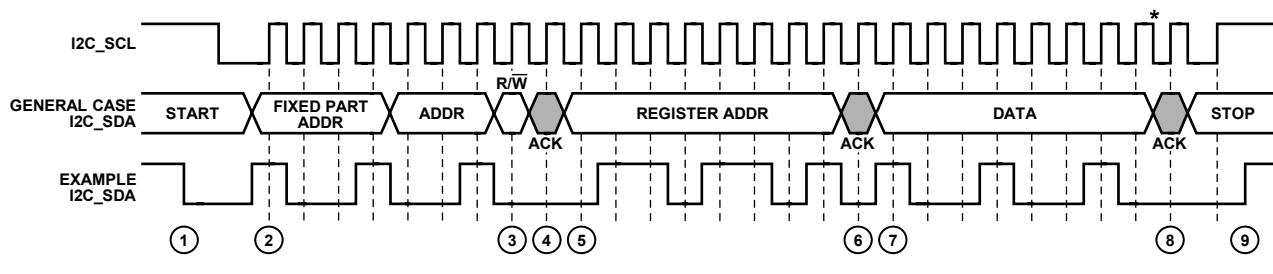

Figure 29. I²C Write Diagram
To write data to the AD8191A register set, an I²C master (such as a microcontroller) needs to send the appropriate control signals to the AD8191A slave device. The signals are controlled by the I²C master, unless otherwise specified. For a diagram of the procedure, see Figure 29. The steps for a write procedure are as follows:
3. Send the write indicator bit (0).
- 9a. Send a stop condition (while holding the I²C_SCL line high, pull the I²C_SDA line high) and release control of the bus to end the transaction (shown in Figure 29).
There is a delay between when a user writes to the configuration registers of the AD8191A and when that state change takes physical effect. This update delay occurs regardless of whether the user programs the AD8191A via the serial or the parallel control interface. When using the serial control interface, the update delay begins at the falling edge of I_C_SCL for the last data bit transferred, as shown in Figure 29. When using the parallel control interface, the update delay begins at the transition edge of the relevant parallel interface pin. This update delay is register specific and the times are specified in Table 1.